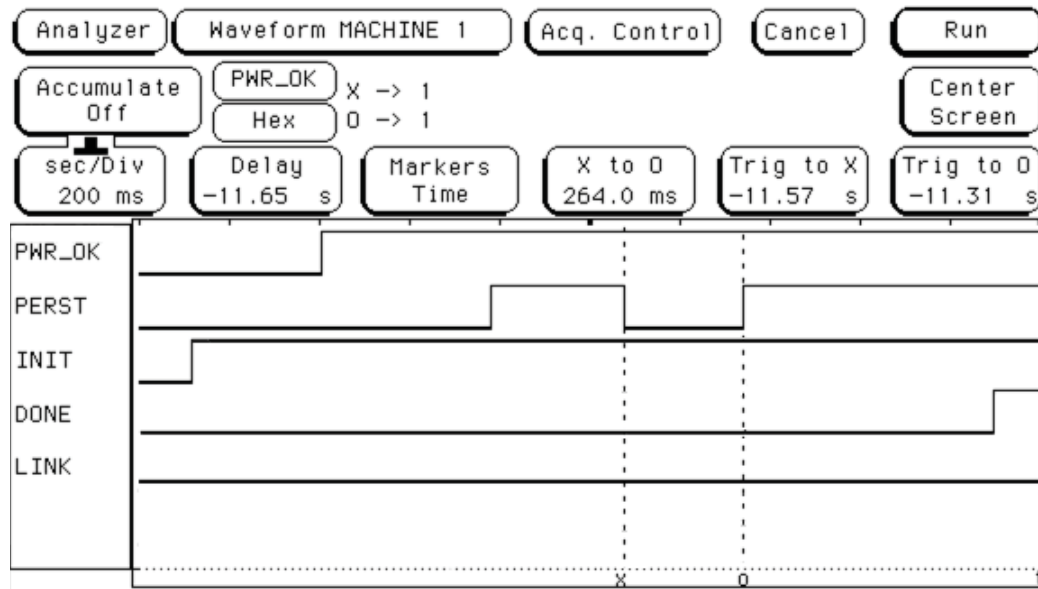
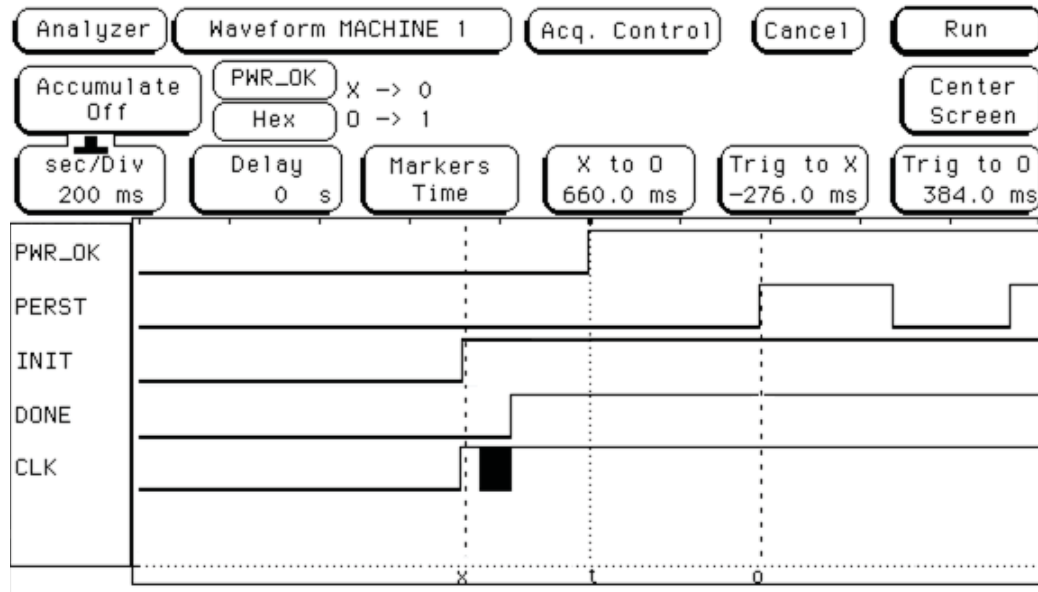

Figure 3-107: Host Fails to Recognize FPGA Due to Slow Configuration Time
Figure 3-108: Host Successfully Recognizes FPGA
This section presents data from an ASUS PL5 system to demonstrate the relationships between Power Valid, FPGA Configuration, and PERST#. Figure 3-107 shows a case where the Endpoint failed to be recognized due to a FPGA configuration time issue. Figure 3-108 shows a successful FPGA configuration with the Endpoint being recognized by the system.
Figure 3-107 illustrates an example of a cold boot where the host failed to recognize the Xilinx FPGA. Although a second PERST# pulse assists in allowing more time for the FPGA to configure, the slowness of the FPGA configuration clock (2 MHz) causes configuration to complete well after this second deassertion. During this time, the system enumerated the bus and did not recognize the FPGA.
Figure 3-108 illustrates a successful cold boot test on the same system. In this test, the CCLK was running at 50 MHz, allowing the FPGA to configure in time to be enumerated and recognized. The figure shows that the FPGA began initialization approximately 250 ms before PWR_OK. DONE going High shows that the FPGA was configured even before PWR_OK was asserted.
1. Check if the motherboard and BIOS generate multiple PERST# pulses at start-up. This can be determined by capturing the signal on the board using an oscilloscope. This is similar to what is shown in Figure 3-107. If multiple PERST# pulses are generated, this typically adds extra time for FPGA configuration.